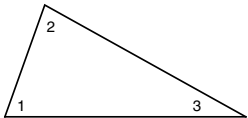

Figure 3-12. Angles 1, 2, and 3 form a triangle totaling 180°.
- **The sum of the interior angles of a triangle is 180°.** Thus, in **Figure 3-12**, Angle 1 plus Angle 2 plus Angle 3 equals 180°.